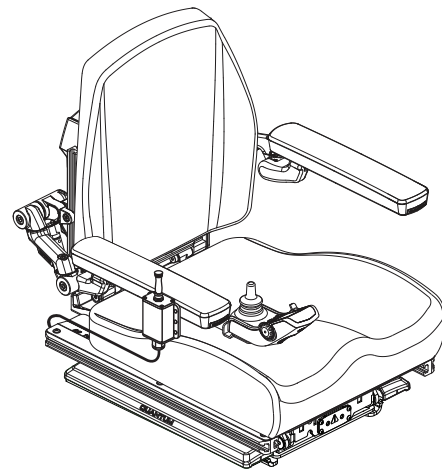

Figure 18. Power Elevating Seat Toggle Switch
1. Press forward on the toggle switch to raise the seat. **See figure 18.**